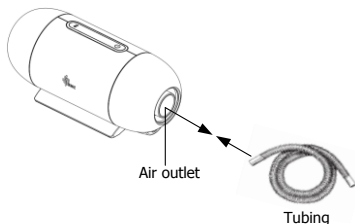

Fig. 11-4
- (1) Connect one end of the tube to the air outlet of the main device, as shown in Fig. 11-4.